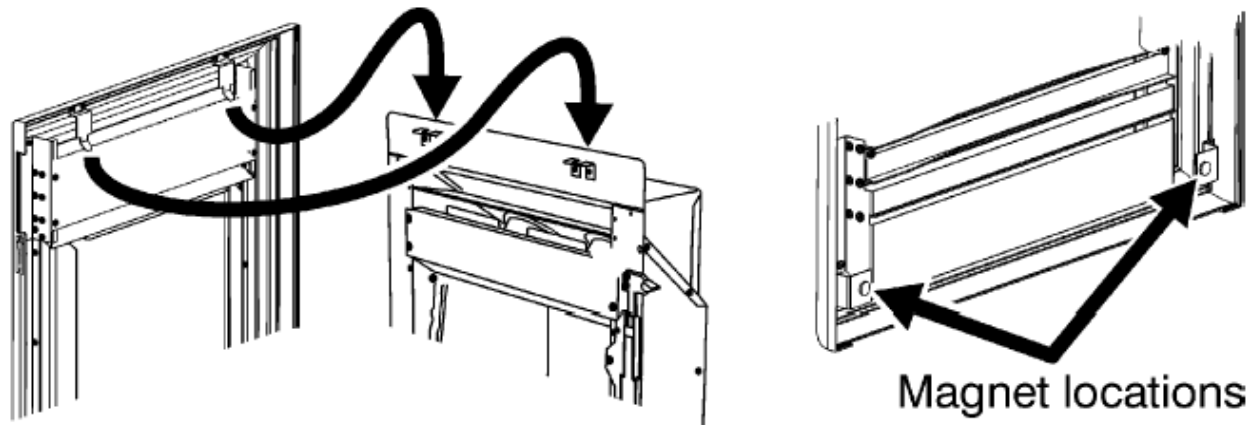

Figure 33. Fitting the 'Homeflame Harmony' fascia
figure 33). The fascia bottom is held in place with magnets. These should be located as in figure 33.
3. To fit the fascia place the top of the fascia against the fireplace front surface so that the two retaining plates at the back of the fascia are directly above the two retaining brackets on the convector box. Keeping the lower part of the fascia clear of the ceramic fuel effect, lower the fascia making sure that the rear retaining plates locate fully into the retaining brackets on the convection box (See figure 33). The fascia bottom is held in place with magnets. These should be located as in figure 33.